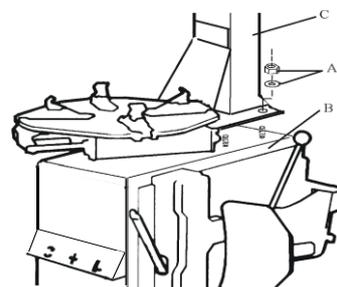

Fig 3
2. Unscrew the nut A on the machine body B as shown in Fig 3. Lift the column C; mount it on the machine body B by using the nut A through the bolt located on the machine body B. If the column becomes loose after a period of using, tight them immediately. Otherwise the result of damage to the tyre may happen.